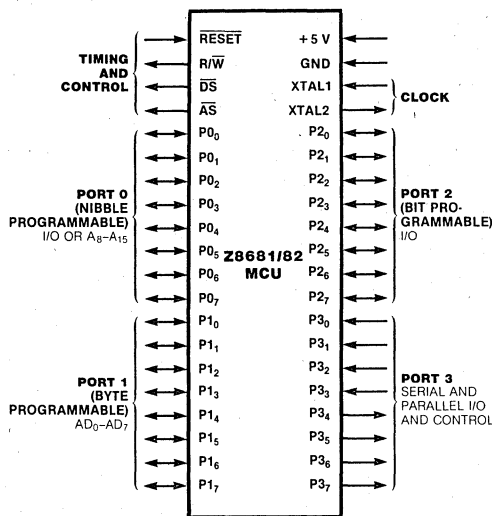

Figure 1. Pin Functions
**The pin functions and the pin assignments of the Z8681/82 40- and 44-pin packages are illustrated in Figures 1 and 2, respectively.**